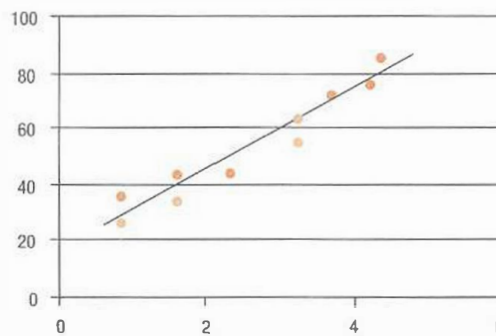

FIGURE 8.5 Regression analysis (scatter diagram)
**Regression Analysis (Scatter Diagram)** This diagram tracks two variables to see if they are related; the diagram is then used to create a mathematical formula for future parametric estimating. Figure 8.5 shows an example of a scatter diagram.